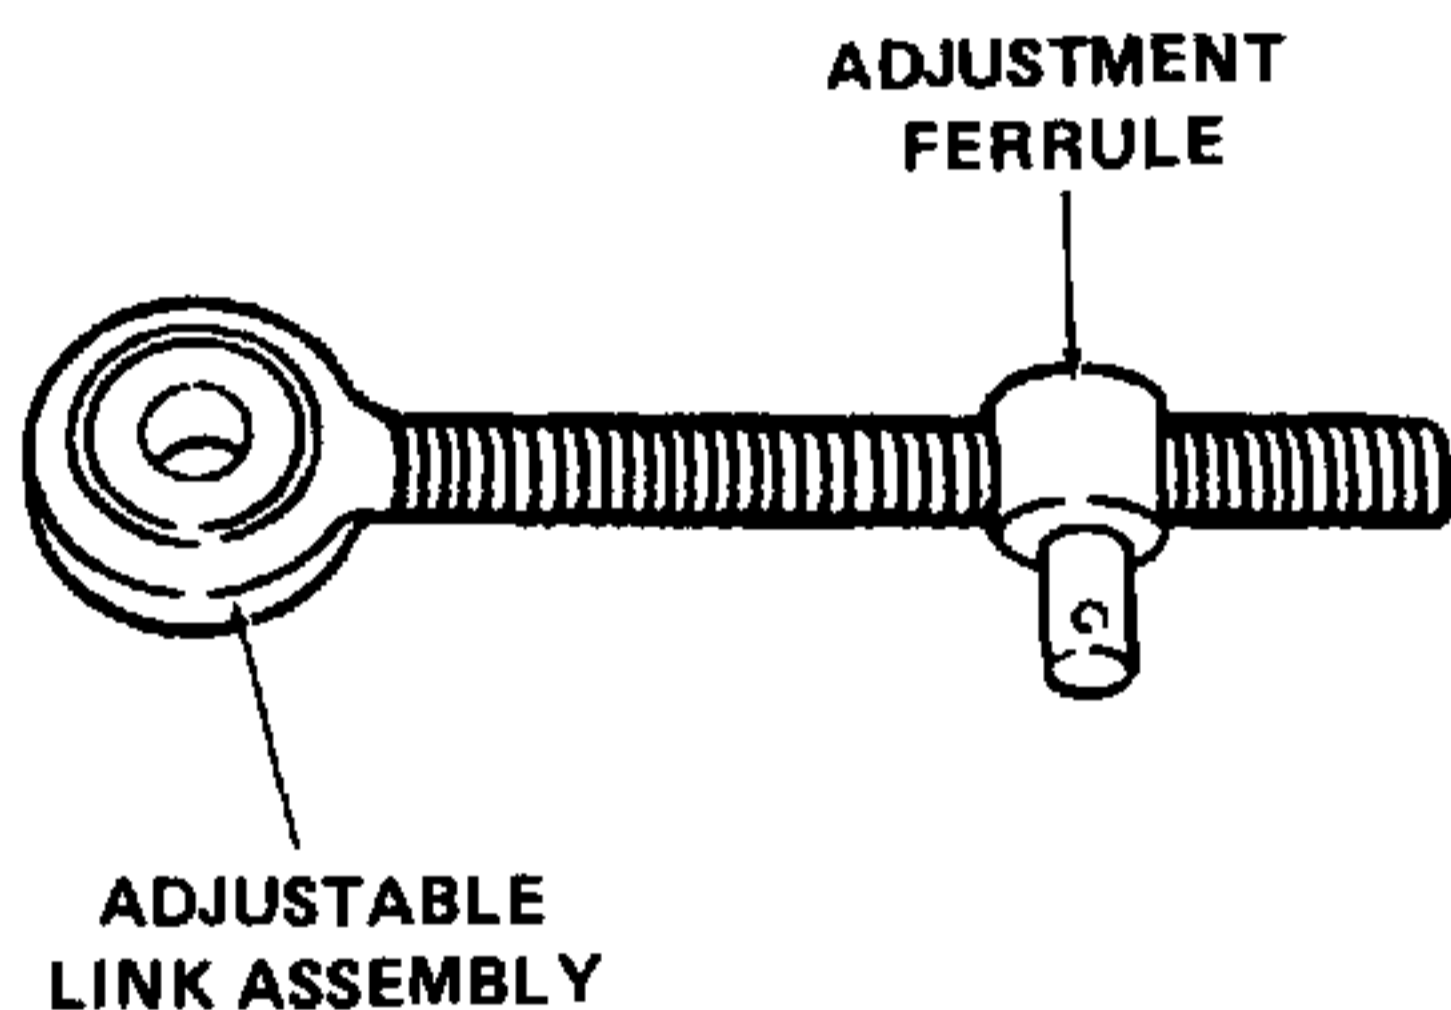

Figure 7-58. Threading Adjustment Ferrule on Adjustable Link Assembly.
- a. Thread adjustment ferrule (17, Figure 7-40) onto adjustable link assembly. Refer to Figure 7-58.